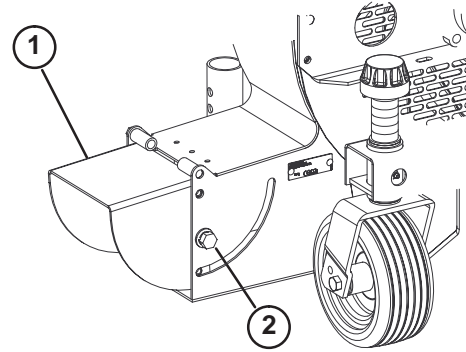

Figure 6
1. Loosen discharge opening deflector mounting screws (Fig. 6).